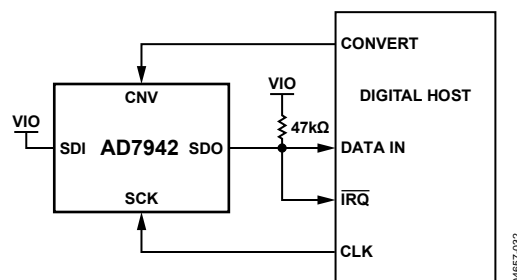
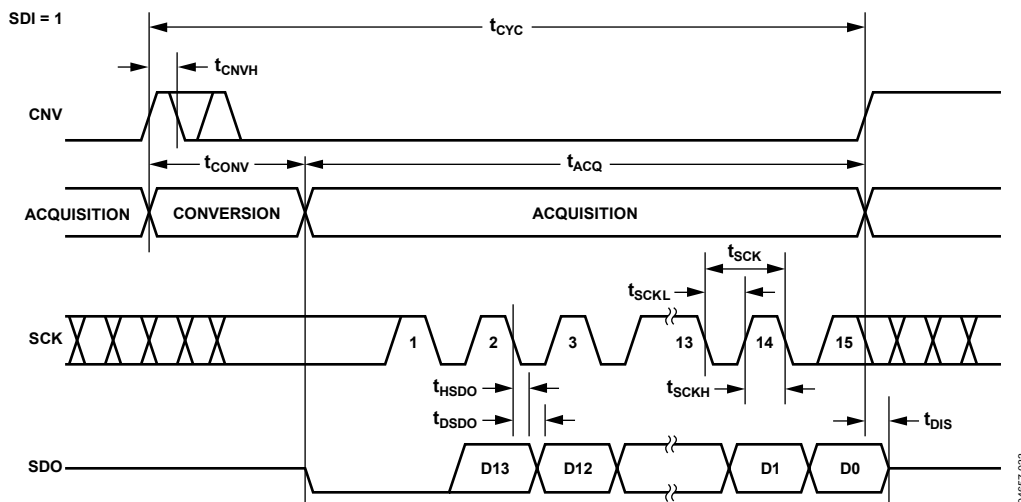
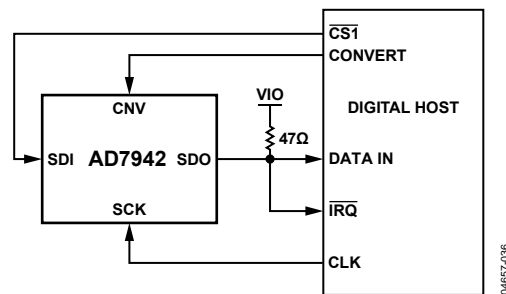
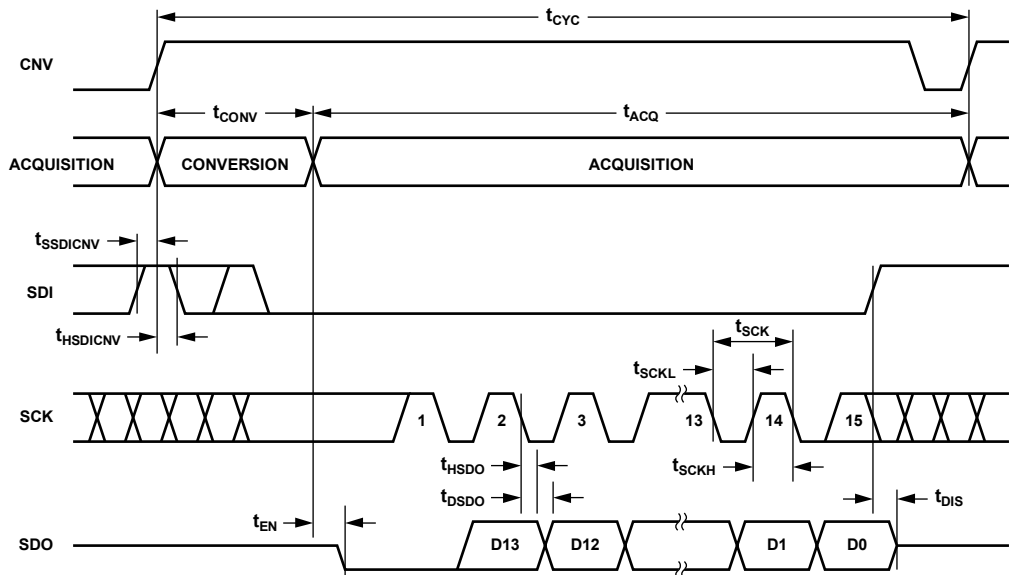

Figure 32.  $\overline{\text{CS}}$  Mode 3-Wire with Busy Indicator Connection Diagram (SDI High)
Figure 33.  $\overline{\text{CS}}$  Mode 3-Wire with Busy Indicator, Serial Interface Timing (SDI High)
Figure 36.  $\overline{CS}$  Mode 4-Wire with Busy Indicator Connection Diagram
Figure 37.  $\overline{CS}$  Mode 4-Wire with Busy Indicator, Serial Interface Timing
- In the  $\overline{\text{CS}}$  mode, if CNV or SDI is low when the ADC conversion ends (see Figure 33 and Figure 37).
This mode is most often used when a single AD7942 is connected to an SPI-compatible digital host with an interrupt input. The connection diagram is shown in Figure 32 and the corresponding timing diagram is shown in Figure 33.
This mode is most often used when a single AD7942 is connected to an SPI-compatible digital host with an interrupt input and to keep CNV (which is used to sample the analog input) independent of the signal used to select the data reading. This requirement is particularly important in applications where low jitter on CNV is desired. The connection diagram is shown in Figure 36 and the corresponding timing diagram is given in Figure 37.